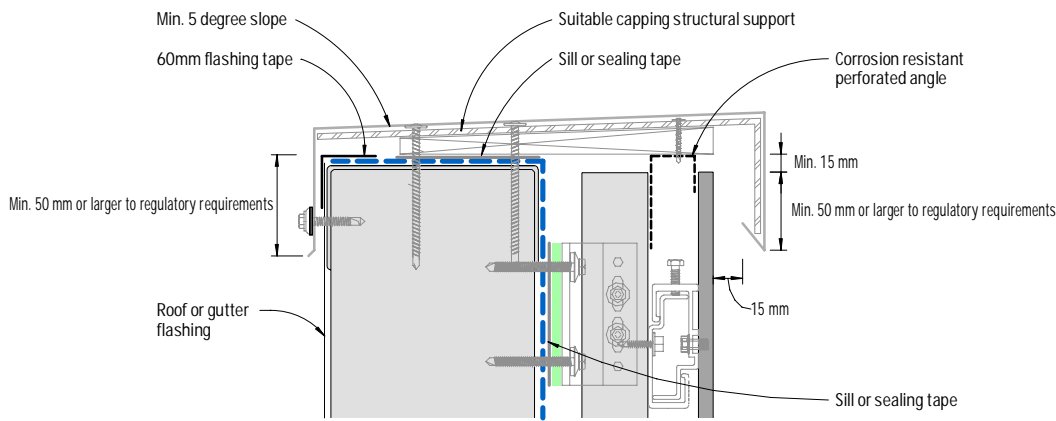

Figure 31: Capping - Detail 1
- 4) Capping shall be designed and engineered accordingly to provide adequate allowance for ventilation as shown in Figures 31 & 32.